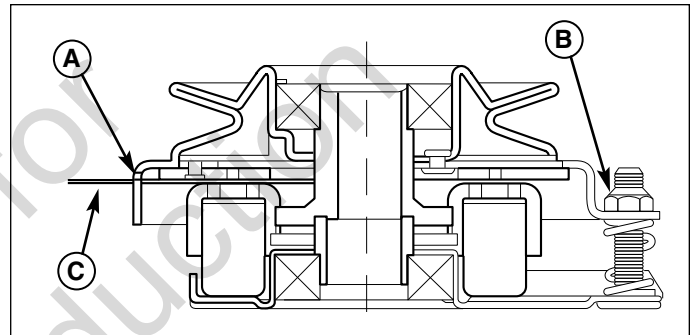

Figure 45. Adjust PTO Clutch
3. Insert a .012"-.015" (2.5-4 mm) feeler gauge (C) through each window, positioning the gauge between the rotor face and the armature face as shown in Figure 45.